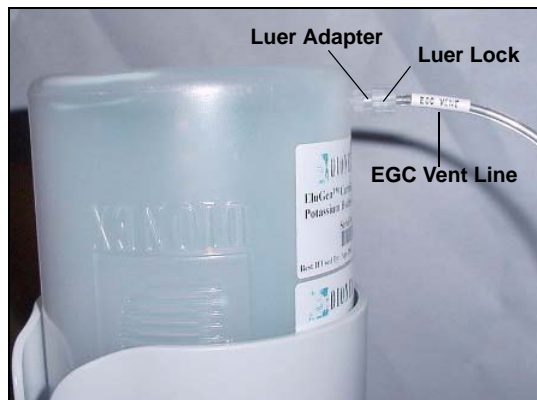

Figure 44. Installing the EluGen Cartridge Vent Line
4. Twist the luer lock and EluGen cartridge vent line into the luer adapter (see Figure 44).